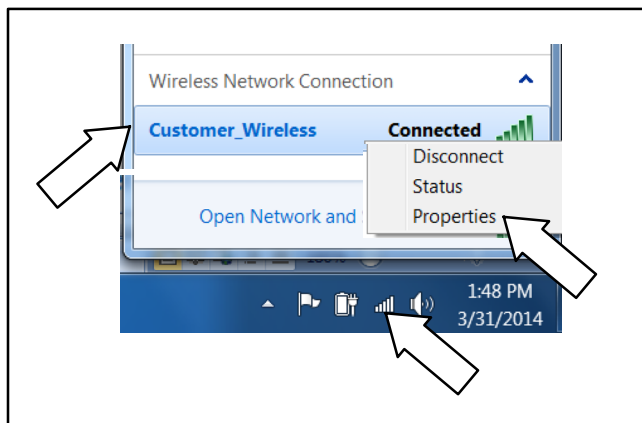

Figure 18 Obtain Wireless Security Settings
- 12.1 Click on the Wireless icon in the lower right corner of screen. See Figure 18.